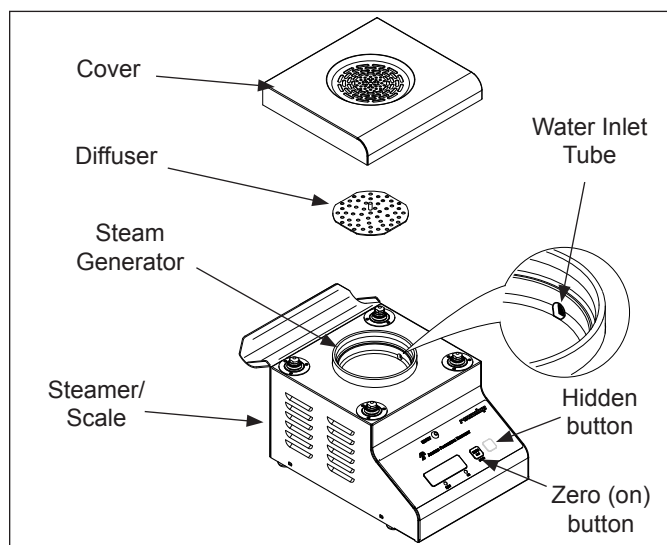

Figure 3. Steamer/Scale Components
14. Turn the Steamer/Scale on, allow the unit to preheat for 30 minutes, and zero it by pressing **Zero (on)** button on the front of the unit (Figure 3).